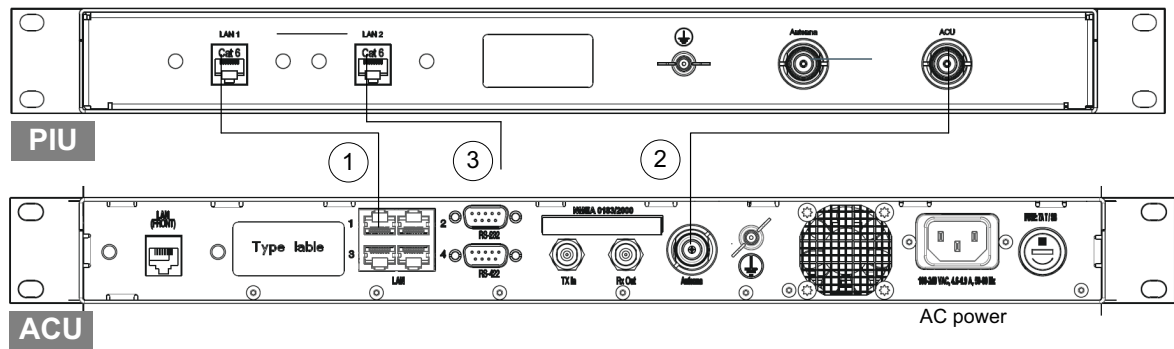

Figure 3-21: Connection between ADU, ACU and PIU
4. Connect cables as shown in the figure *Connection between ADU, ACU and PIU* in figure 3-21.